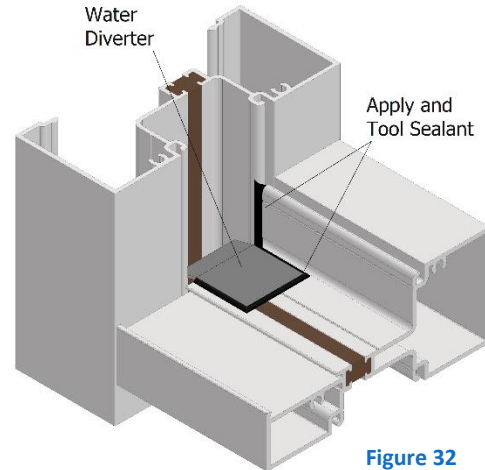

Figure 32
- 2. Apply sealant to the vertical intersection of the horizontal and vertical member (see figure 32).